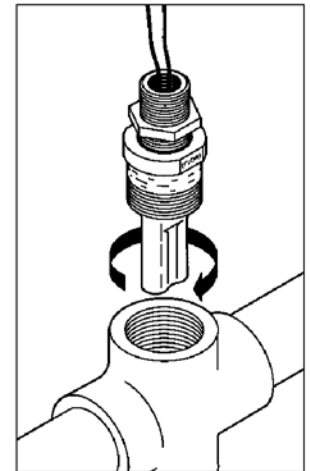

FIGURE 3
5. Install sensor into cross housing. Make sure that flow arrows marked on sensor are lined up parallel with the piping run and point in direction of flow (Figure 3).